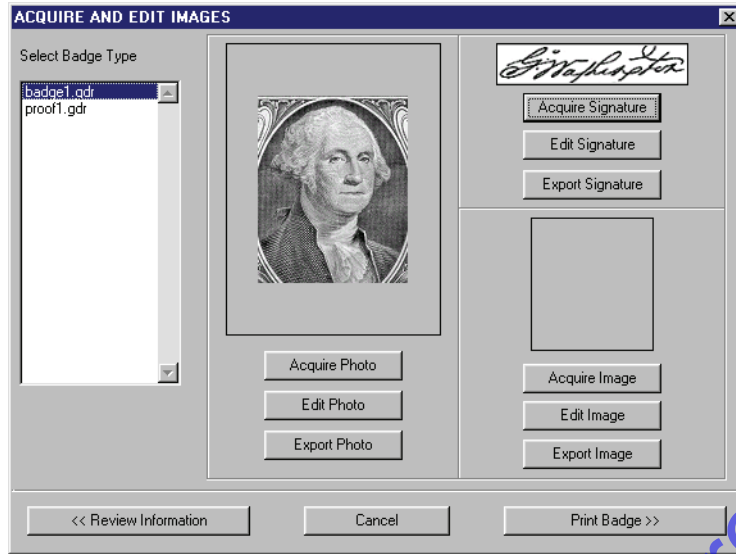

Figure 9-33 Acquire and Edit Images Window with Photo and Signature
13. If you are satisfied with your adjustments, click on the  button. The Acquire and Edit Images window appears with the user photo displayed (see Figure 9-33 on page 28 of this section).
If the signature file should be saved in a different folder, click the  at the right side of the “Save in” field. Navigate through the folders in the host computer’s hard disk drive until you locate the desired folder. Click on the  button. The user signature file is exported and the Acquire and Edit Images window reappears (see Figure 9-33 on page 28 of this section).